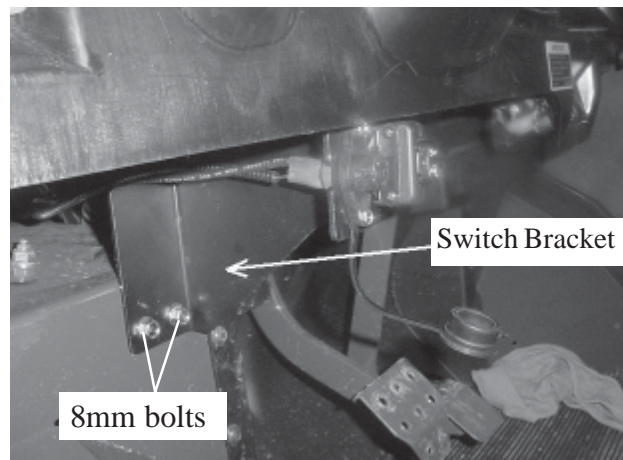

Figure 16
8. Fasten the stay switch to the vehicle above to brake pedal, Figure 16. The plastic plugs must be removed before the 8mm bolts can be inserted. Mount the remote and/or rocker switch to the switch stay using the fasteners included in the winch kit.